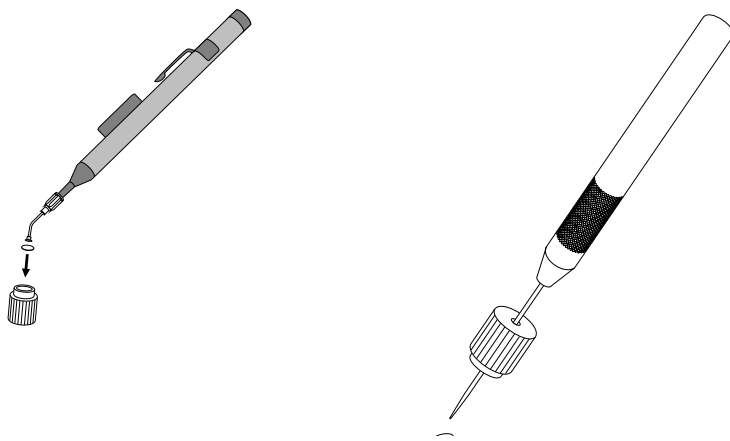

Figure 1. Insertion & Removal of Rupture Membrane
2. If safety membranes are to be used, install a safety membrane in the Teflon vent fitting as outlined in step 2 of standard vessel instructions and as shown in figure 1.